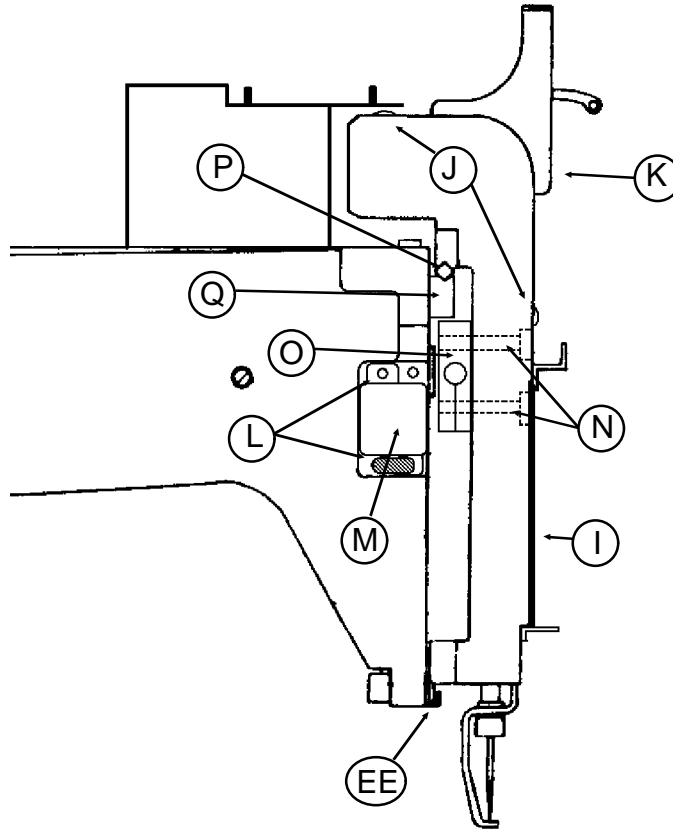

Figure 3
12. Slide the Needle Case Face Plate (Figure 3-I) off of the Needle Case.
13. Remove the four Take-Up Lever Cover Retaining Screws (Figure 3-J) and remove the Take-Up Lever Cover (Figure 3-K).
14. Remove the two Jump Stitch Cover Retaining Screws (Figure 3-L) and remove the Jump Stitch Cover (Figure 3-M).
15. Remove the four Needle Case Stop Retaining Screws (Figure 3-N) from the Needle Case and remove the Needle Case Stop (Figure 3-O).
16. Remove the Needle Case from the Head and lay it aside. Make sure that the Slider Bearing (Figure 3-P) stays on the Lower Guide Bar (Figure 3-Q).
- B. Make sure that the lower edge of the Needle Case is being held by the Lower Guide Bar Clamp (Figure 3-EE).